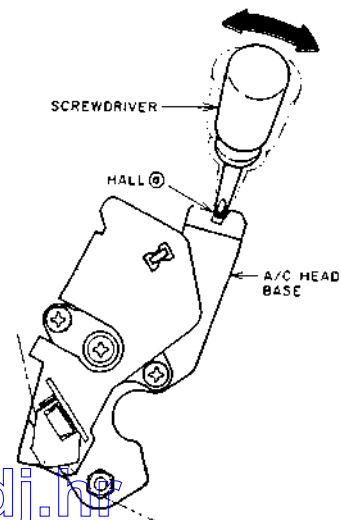

Fig. 5-8
- 4) Insert a sharpness screwdriver into A/C HEAD base and hall **a** as shown in Fig. 5-8.
- 5) Move the A/C HEAD base by moving a screwdriver in the directions of the arrow as shown in Fig. 5-8 to obtain the maximum RF envelope.